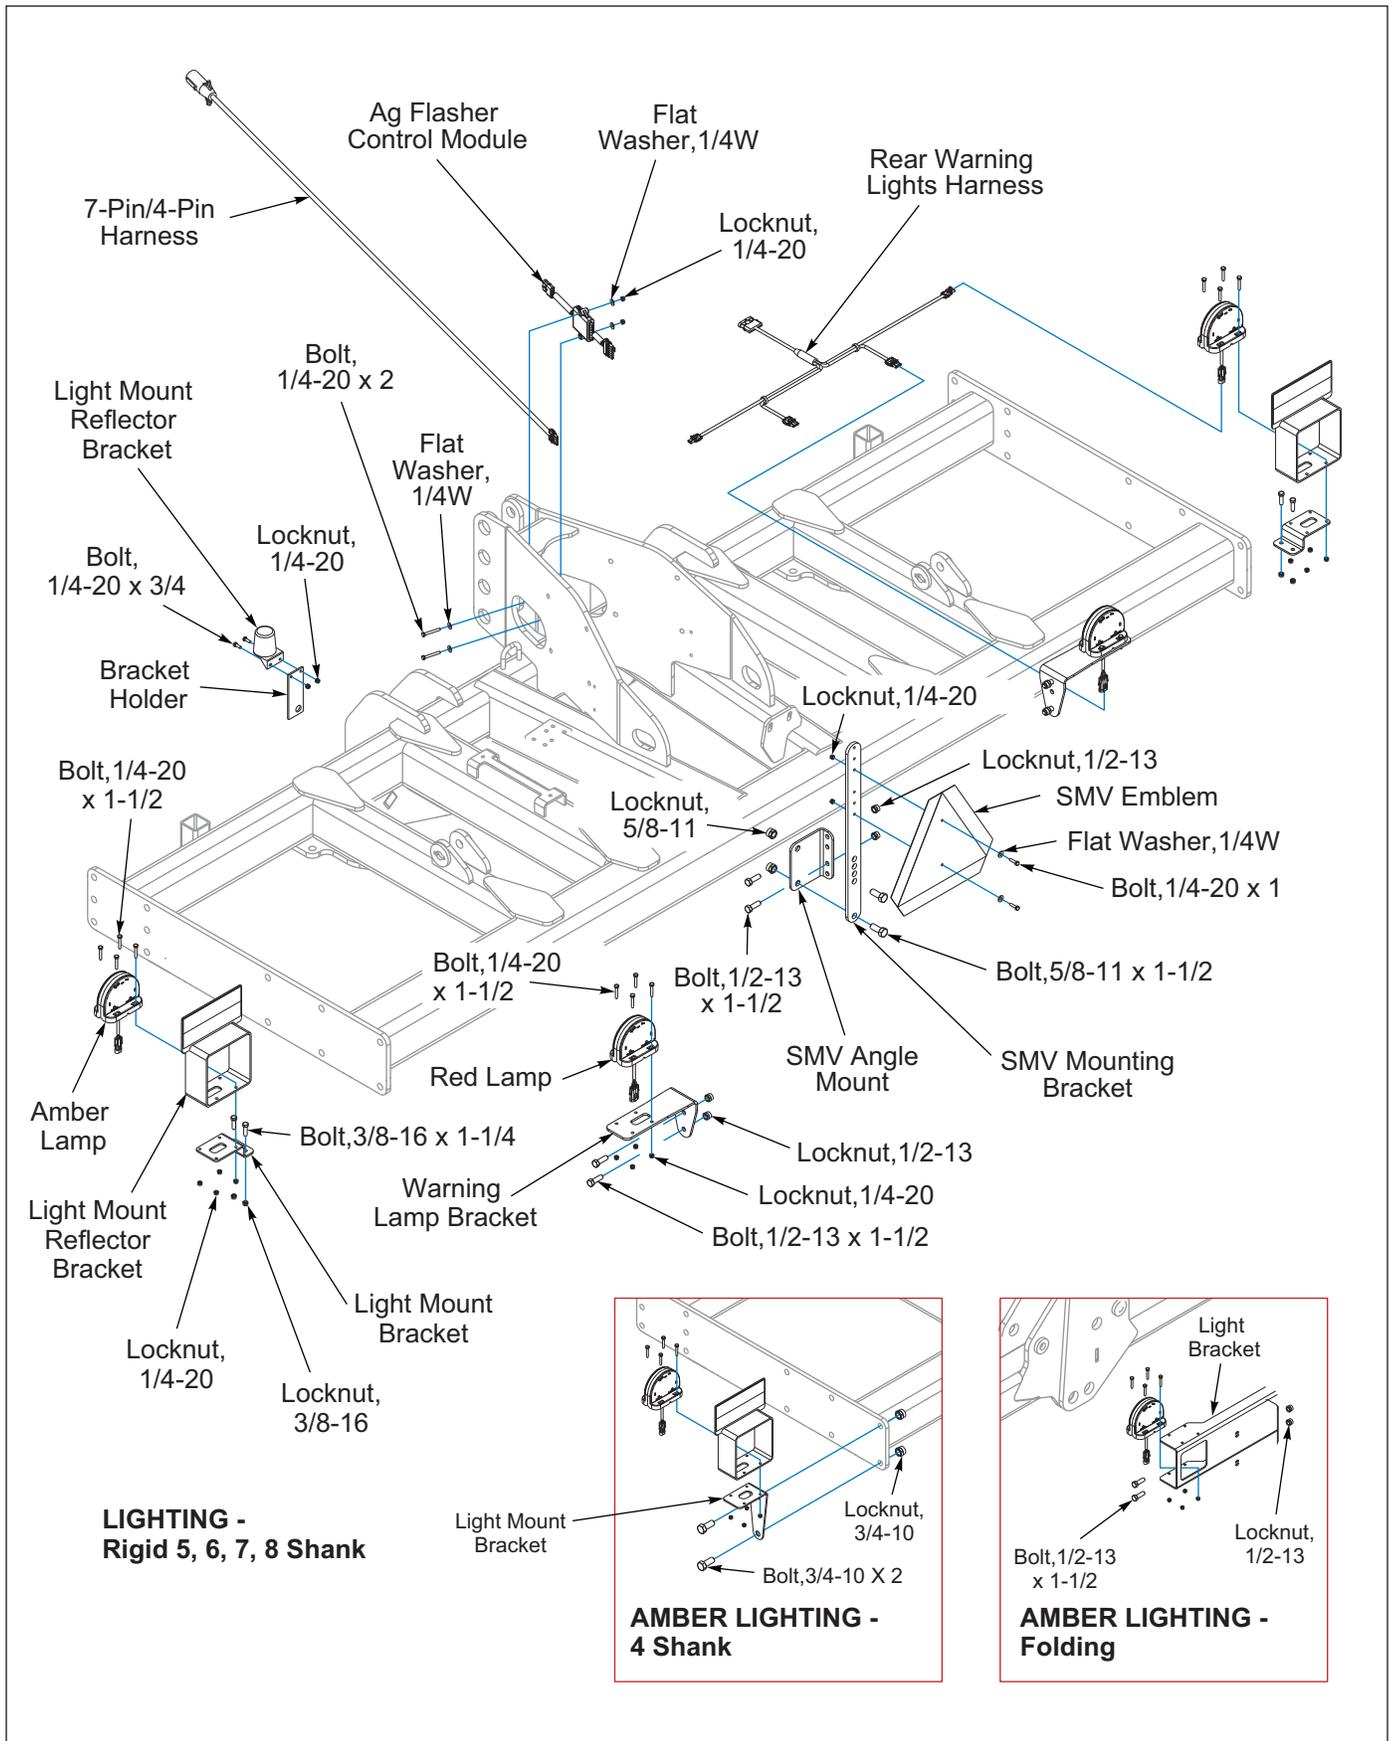

Figure 3-11: LED Light and SMV Bracket Installation
2. Attach SMV emblem to top of SMV Mounting Bracket using 1/4-20 x 1 hex head Capscrews, Flat Washers, and Hex Locknuts **See Figure 3-11.**
1. Attach left and right (Amber) Light Mount Brackets to frame. **(See Figures 3-11 thru 3-12.)**